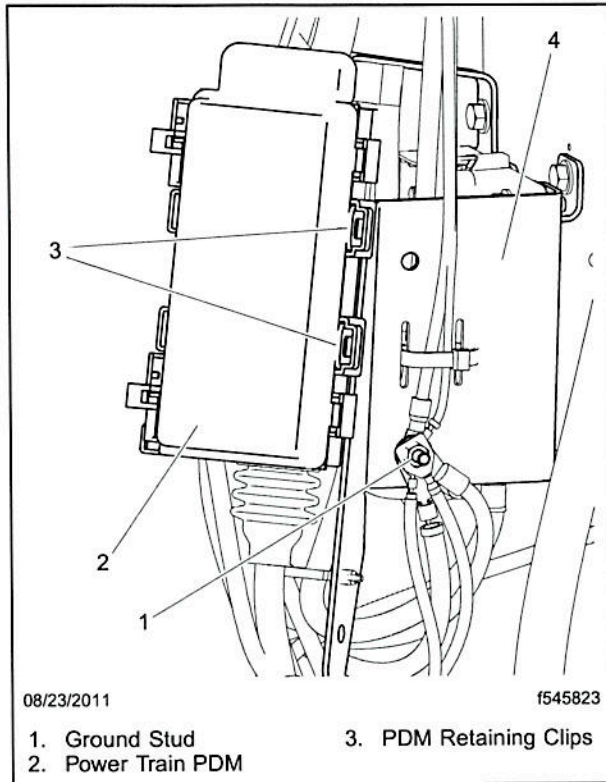

Fig. 4, New Electrical Connections, PNDB
16. Connect all of the electrical connectors and cables to the PNDB. See Fig. 4.
18. Install the power train PDM on the PNDB/PDM mounting bracket. See Fig. 4.